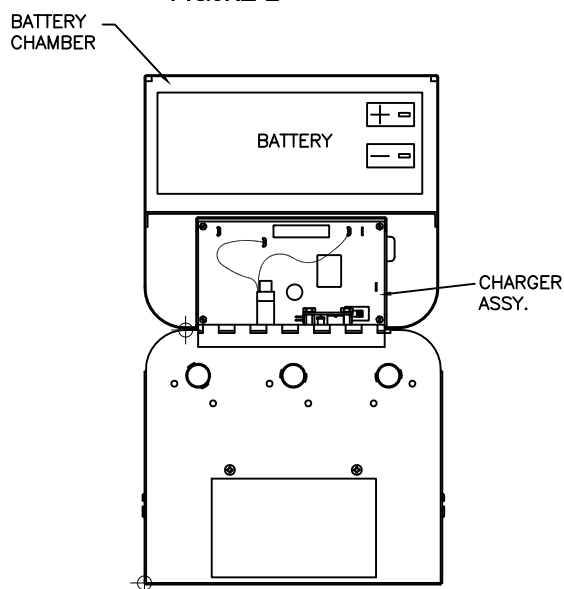

FIGURE 3
7. Carefully slide battery into chamber in cabinet. Orient terminals to the right side. (See Fig. 3 on page 2)